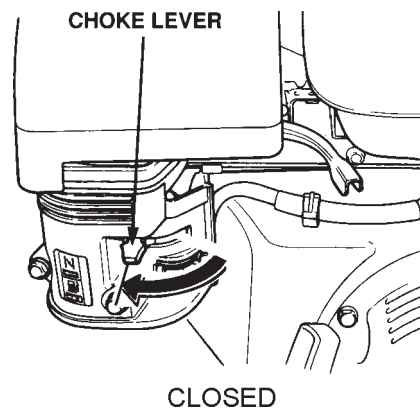

Figure 9. Engine Choke Lever (Closed)
4. Place the **choke lever** (Figure 9) in the "CLOSED" position if starting a **warm** engine or the **temperature is warm**.